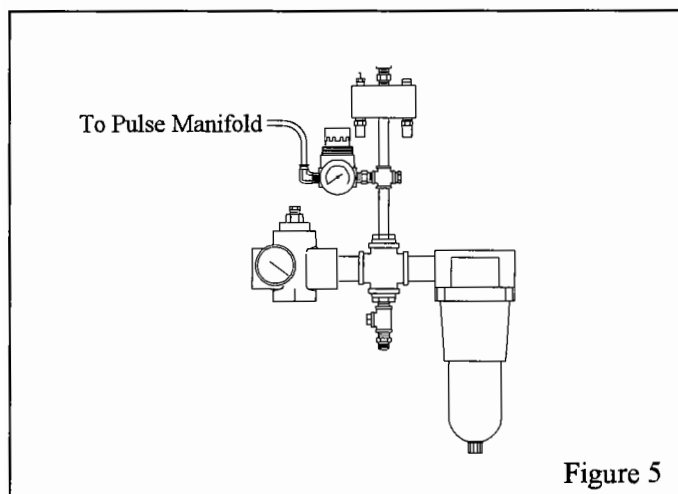

Figure 5
3.8 Remove the pulse manifold tubing from the regulator assembly, as shown in Figure 5. Place the tubing out of the way to prevent damage, as it will be reconnected later.